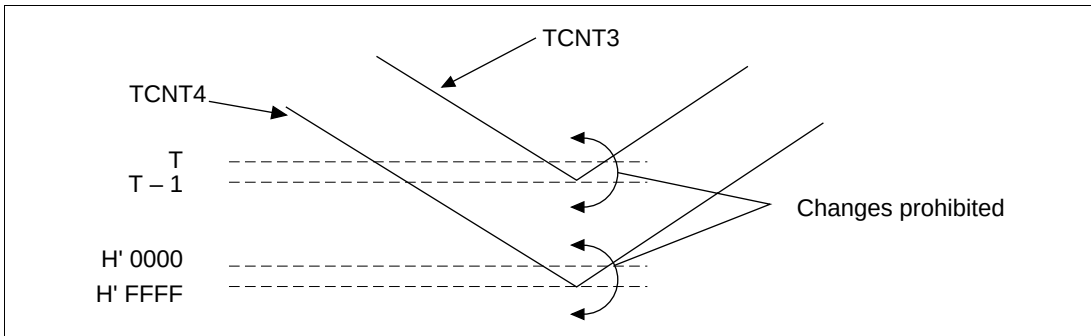

**Figure 10.40 Caution on Changing GR Settings with Buffer Operation (2)**
**Buffer Transfers when Changing from Decrement to Increment:** When the contents of GR are in the range H'0000 to T-1, do not transfer a value outside this range. When the contents of GR are outside this range, do not transfer a value within it. Figure 10.40 illustrates this point for caution regarding changing of GR settings with buffer operation